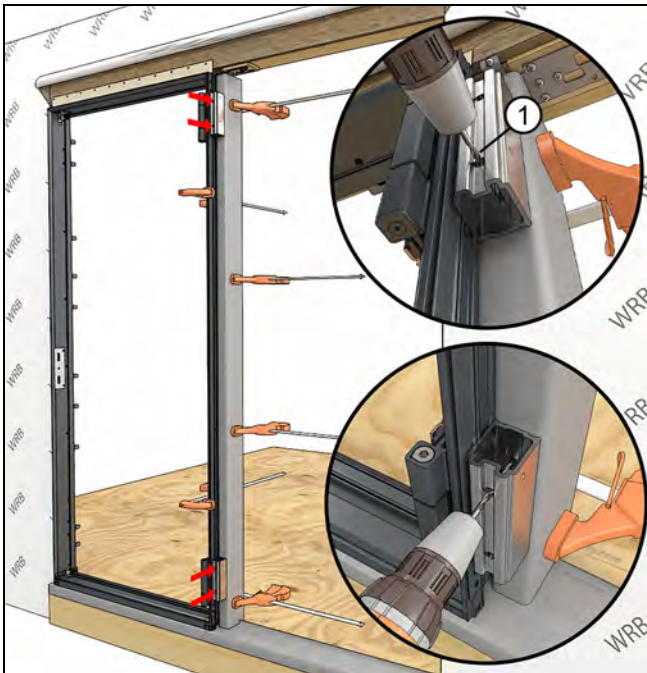
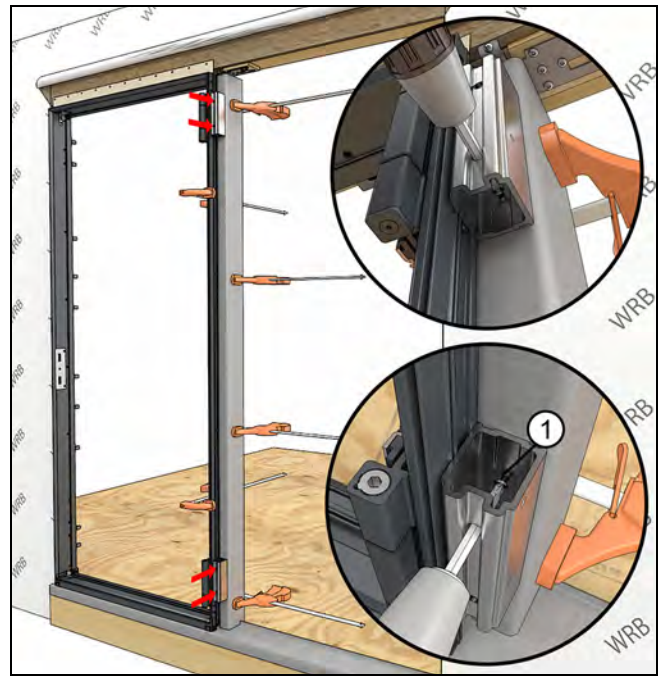

Figure 254 Predrill into tube steel
Figure 255
1. Fasten the tube steel to the aluminum mull filler blocks using the access holes on the mull filler blocks. Predrill with #23 drill bit and fasten with #8 x 1/2" trilobular screws. See Figure 253, Figure 254, and Figure 255.